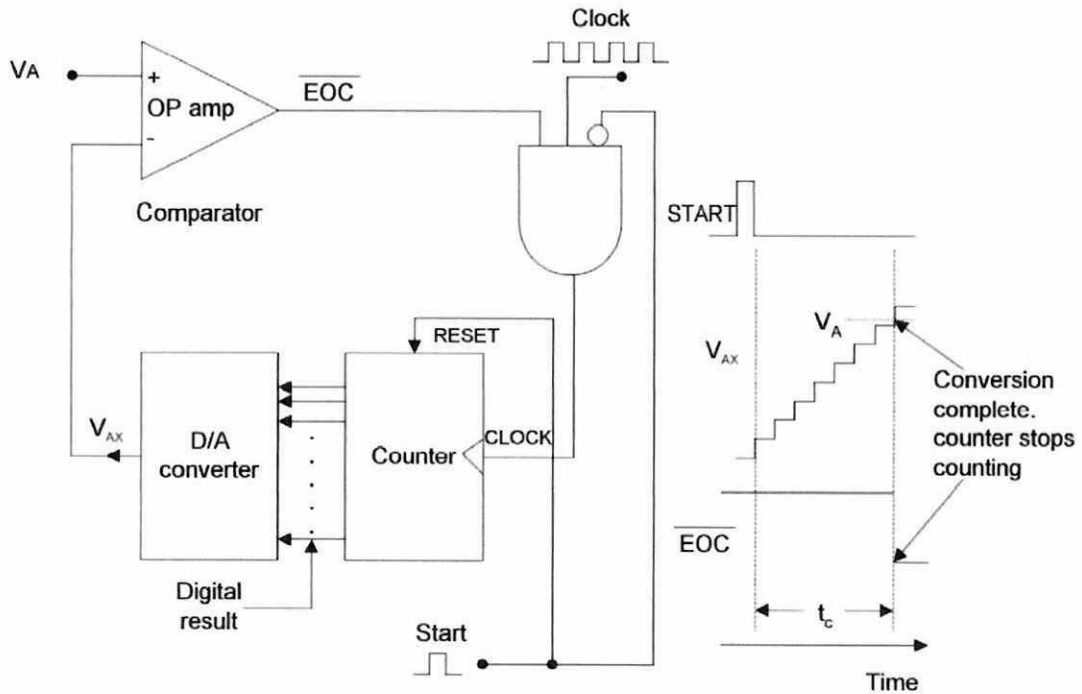

Figure Q4(d)
- (d) **Figure Q4(d)** shows a digital ramp analog to digital converter (ADC). Assume the following values for the ADC; Clock frequency = 1 MHz and $V_T = 0.1$ mV. Meanwhile the DAC has F. S. Output = 10.23 V and a 10-bit input. Determine the following values.